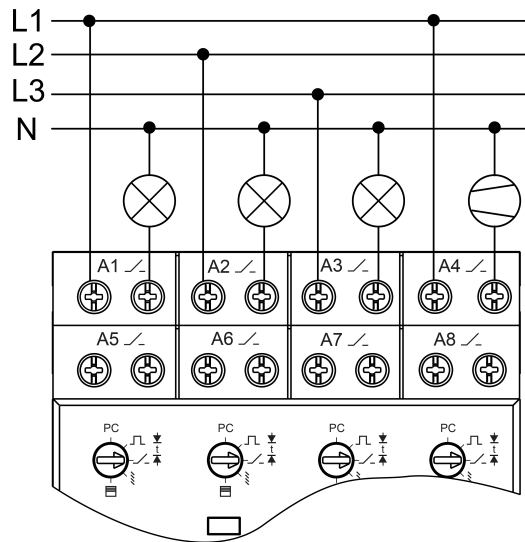

Figure 4: Connection example of switching loads **A1...A4**
- Connect loads as shown in the connection example of switching loads (Figure 4).